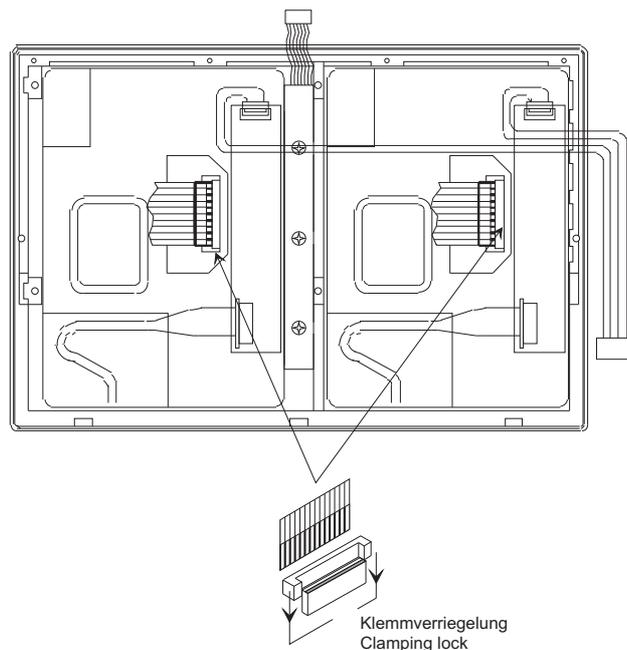

Fig. E 8-8: Connecting the flat cables to the new display unit
12. Connect the flat cables to the new display unit. Avoid damage of the flat cables because of canting (Fig. E 8-8).